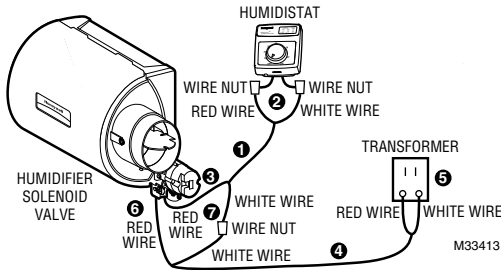

Fig. 16. Wiring the controls and the HE240.
7. Connect the low-voltage wires to the leads and replace the H8908 case. See Fig. 16.
Wire the humidifier solenoid valve, humidistat and transformer. See Fig. 16.